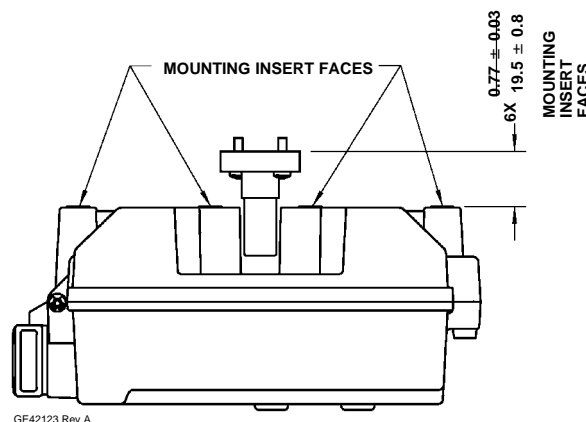
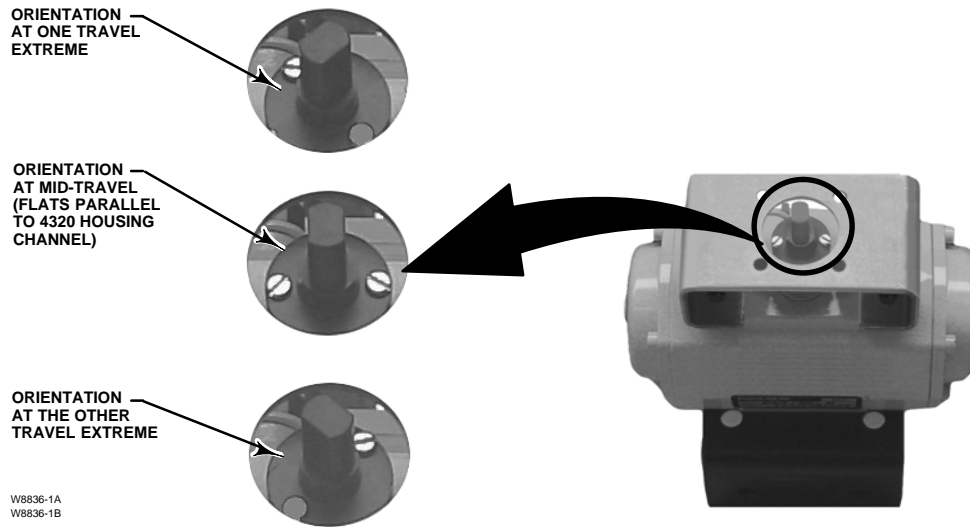

Figure 7. Mounting—Rotary Magnet Array
Figure 8. Feedback Assembly Orientation
1. Attach the magnet assembly to the actuator shaft, as shown in figure 7. At mid-travel, the flats on the magnet assembly must be parallel to the channel on the back of the 4320 housing, as shown in figure 8.